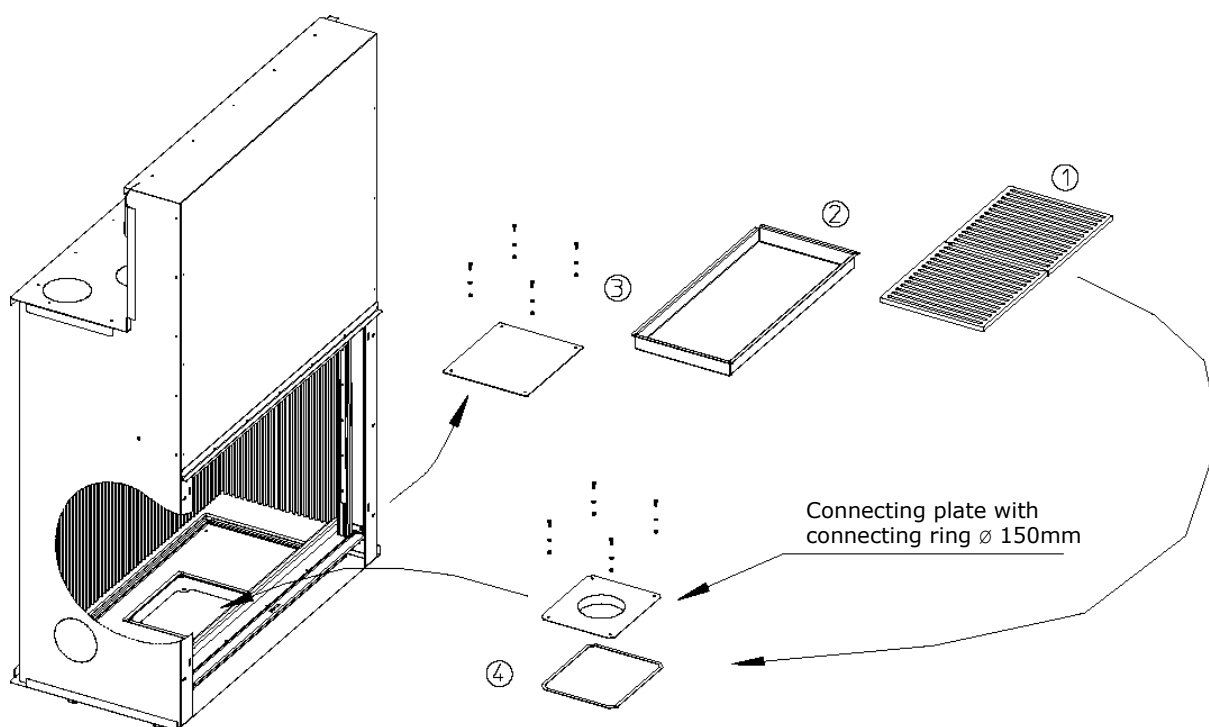

Figure 9: Combustion air
- Every appliance has 2 connecting nozzles for ambient air at the bottom left and right of the appliance (see figure 9) (photograph 11).